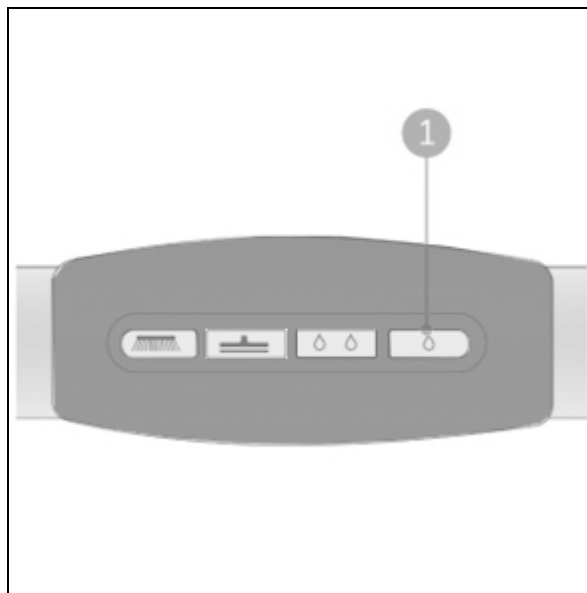

Figure 19
1. Turn on the ECO mode by pushing the ECO button (Figure 19, pos 1).
3. To start normal cleaning mode push button (Figure 19, pos2)